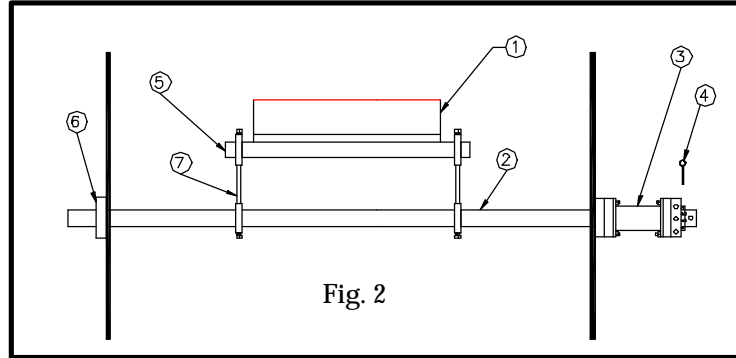
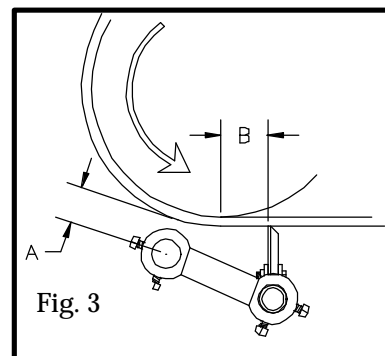

Fig. 2
Fig. 3
The centerline of the tensioner pipe (item 2 – fig. 2) should be mounted below the belt about 2 ½” (63.5mm) for a “RGS”, see dim. “A” – fig. 1. You may have to fabricate the structure in order to do this. You will need a surface of at least 4 ½” (114.3mm) wide to accommodate the tensioner (item 3 – fig. 2) and weld hub (item 6 – fig. 2). You will need to cut or burn a 2 ½” (63.5mm) hole for the tensioner pipe to pass through with its center line below the belt surface as referred to in dim “A”-fig 1. Make sure that hanger brackets are perpendicular to the belt. When locating the cleaner ensure the metal blade tip is beyond the point where the belt leaves the pulley (see dimension B). Generally a distance of 3” (76.2mm) is a safe measurement.
Now, remove the tensioner and weld hub (or second tensioner if supplied with your cleaner) from the cleaner and slide the tensioner pipe from the pivot arms (item 7 – fig. 2). You may leave the arms attached to the cleaner mainframe.
Now you can slide the tensioner pipe through the brackets. As you run the tensioner pipe through the first bracket, you will need to slide back through the pivot arms at the same time (see fig. 2). Do not tighten the setscrew in the pivot arms yet, let them hang freely on the tensioner pipe. Now, slide the tensioner over the end of the pipe that has the slots in it and insert the tensioner pin (item 4 –fig. 2). After placing the weld hub (item 6 – fig. 2) on the opposite end (or second tensioner), hold the pipe so the centerline is at 2 ½” (63.5mm) (Dim A - fig. 3) from the face of the belt. Tack-weld the tensioner and weld hub to the mounting brackets. (note: if your cleaner is equipped with dual tensioners then item 6 will be omitted and replaced with a second item 3). Note: Cleaners over 48” may be supplied with dual tensioners. This will require the installer to locate additional holes in the tensioner pipe to accommodate the placement of the tensioner pin through the index hub and pipe. These holes will be located on the opposing side of the pipe where the factory-installed slots are found.